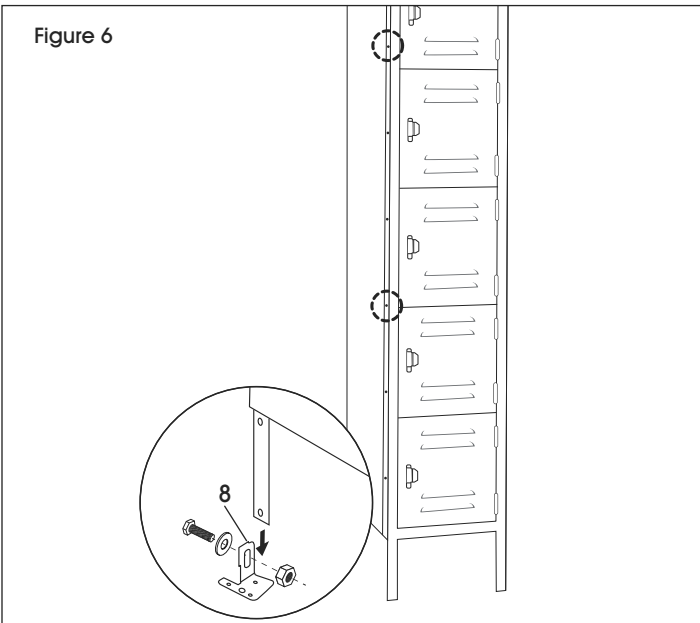

Figure 6
1. If joining a unit beside another unit, temporarily install a bolt and nut into the third and sixth holes down from the top of the outer frame(s) that will be joined to the adjacent locker frame(s). (See Figure 6)
2. Use supplied leveling feet and hardware (8) to level the unit. (See Figure 6)